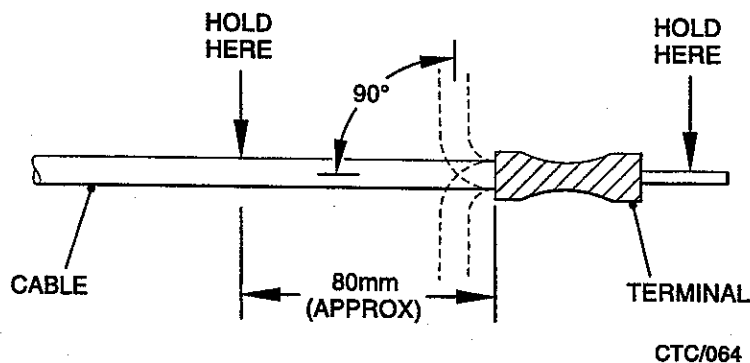

Fig 3 Insulation support test
9.4 Remove the termination from the tool and check for correct crimping of the insulation support by holding the termination and bending the cable back and forth through 90 degrees and 180 degrees once only (see Fig 3). The termination should retain its grip on the cable insulation.